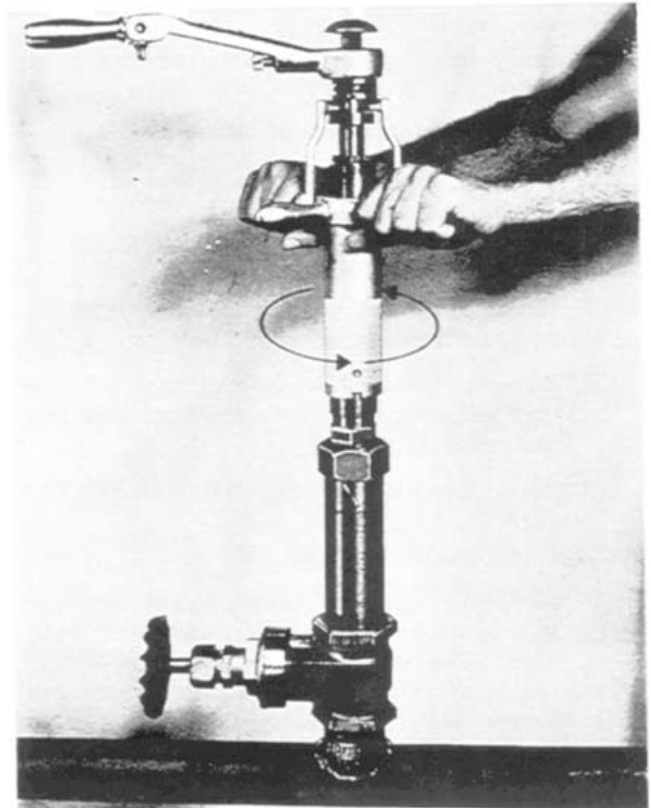

FIGURE 9
9. Contract the stopper by turning the feed tube and yoke COUNTER-CLOCKWISE a little at a time with short pause after each turn the same number of turns as it took to expand the stopper. FIGURE 9. Do not rotate ratchet handle.
10. Contract the stopper by turning the feed tube and yoke COUNTER-CLOCKWISE a little at a time with a short pause after each turn the same number of turns as it took to expand the stopper. FIGURE 9. Do not rotate ratchet handle.